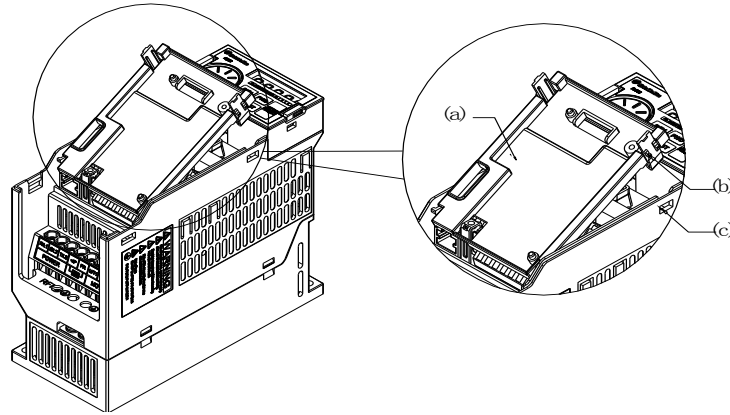

Figure 1
Step 3 : Use the front rear as support and slide (a) in by pressing down as figure 1 shown.